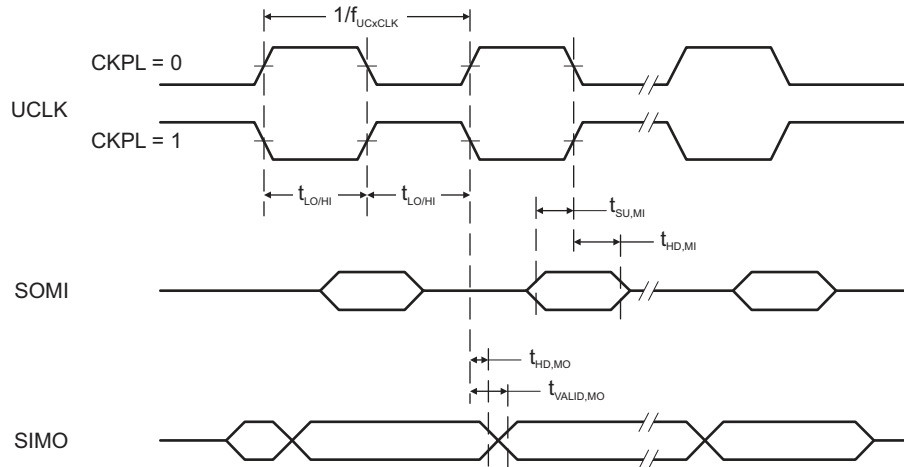
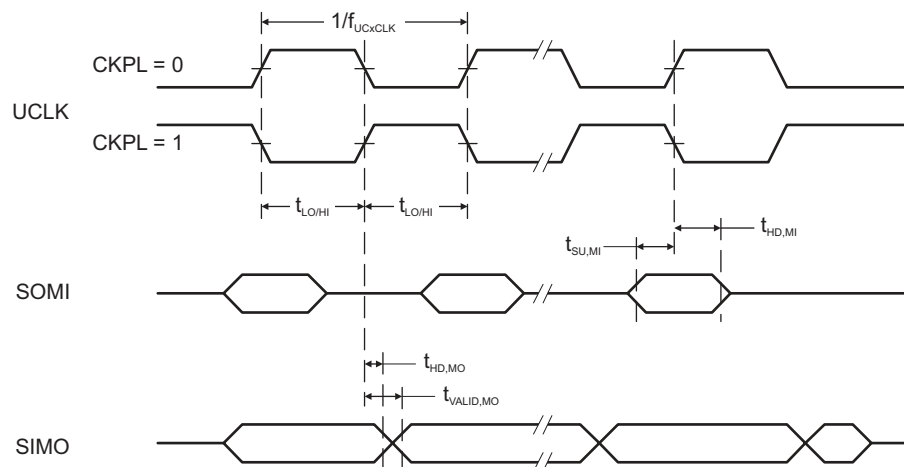

Figure 5-11. SPI Master Mode, CKPH = 0
Figure 5-12. SPI Master Mode, CKPH = 1
(see Figure 5-11 and Figure 5-12)
(2) Specifies the time to drive the next valid data to the SIMO output after the output changing UCLK clock edge. See the timing diagrams in Figure 5-11 and Figure 5-12.
(3) Specifies how long data on the SIMO output is valid after the output changing UCLK clock edge. Negative values indicate that the data on the SIMO output can become invalid before the output changing clock edge observed on UCLK. See the timing diagrams in Figure 5-11 and Figure 5-12.
- Specifies the time to drive the next valid data to the SOMI output after the output changing UCLK clock edge. See the timing diagrams in Figure 5-11 and Figure 5-12.
- Specifies how long data on the SOMI output is valid after the output changing UCLK clock edge. See the timing diagrams in Figure 5-11 and Figure 5-12.